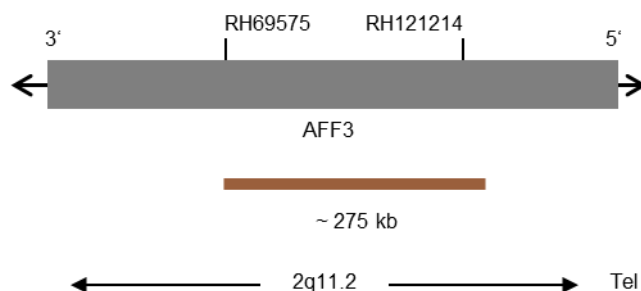

Fig. 1: SPEC 2q11 Probe map (not to scale)
- Digoxigenin-labeled polynucleotides (~1.8 ng/ $\mu$ l), which target sequences mapping in 2q11.2\* (chr2:100,346,637-100,621,745) (see Fig. 1).